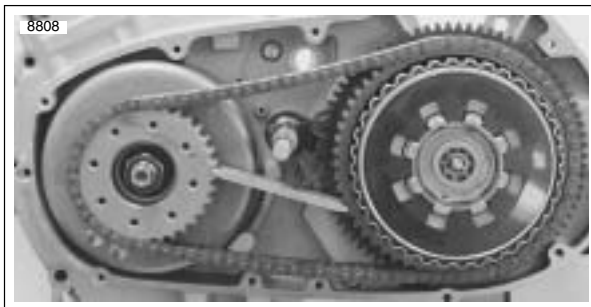

Figure 6-24. Sprocket Locking Link Tool
- a. See Figure 6-24. Install SPROCKET LOCKING LINK (Part No. HD-46283).